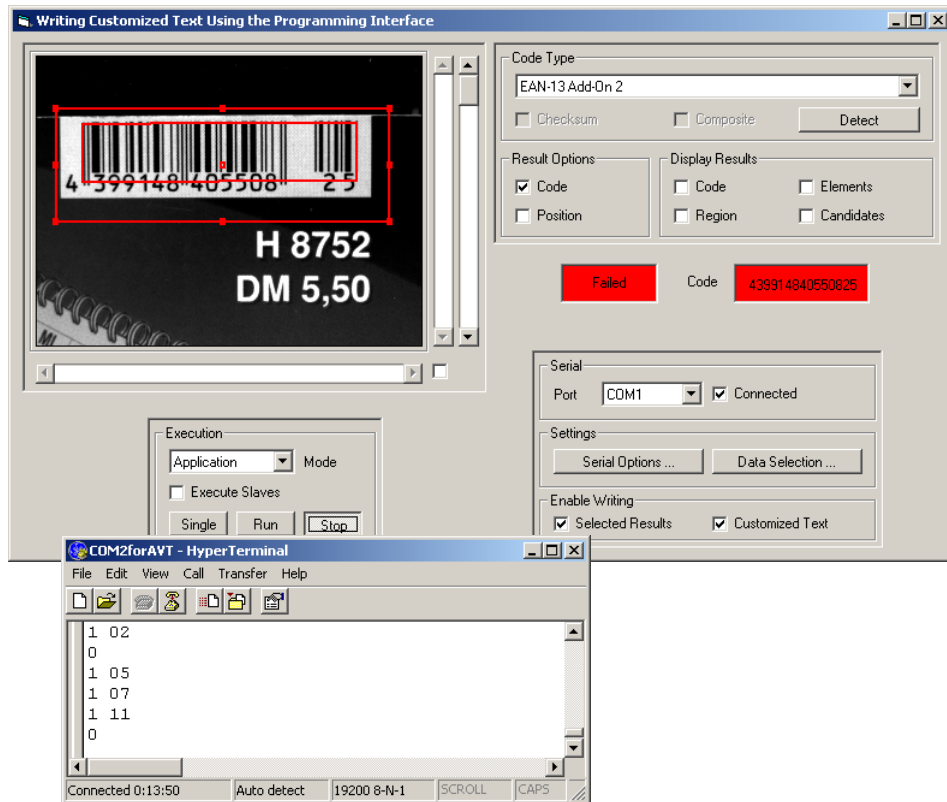

Figure 3.1: Customizing the output text.
- In the *application mode*, customized data is to be transmitted, consisting of an extended evaluation ('0': incorrect code; '1': correct code), followed by the last two digits of the code, which encode the issue of the magazine (only if code is evaluated as 'okay'). Figure 3.1 shows this customized output for the complete image sequence.